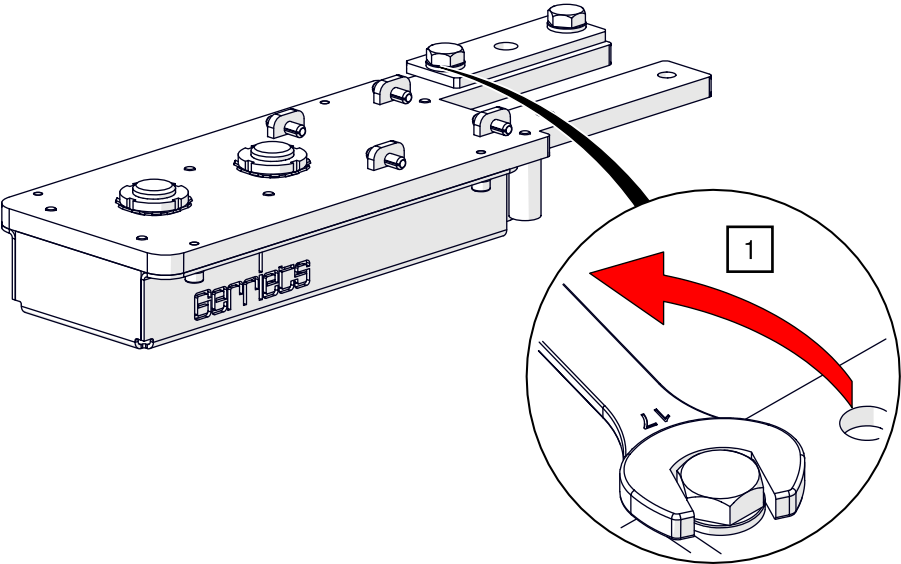

Fig. 58: Crossover unit – Loosen clamping plate on the deflection unit
1. Loosen the hexagon screws of the clamping plate with an open-ended spanner AF 17 (see Fig. 58).